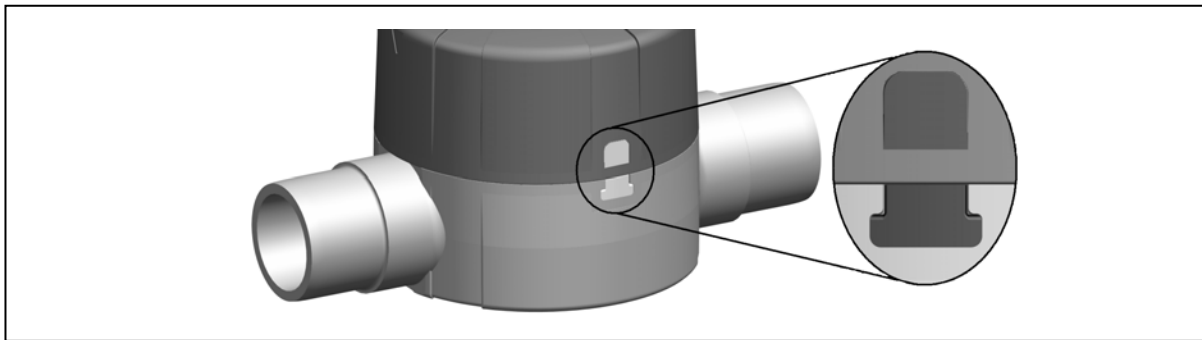

Fig. 16
- the half-round position indicator is align with the friction lock, see fig. 16